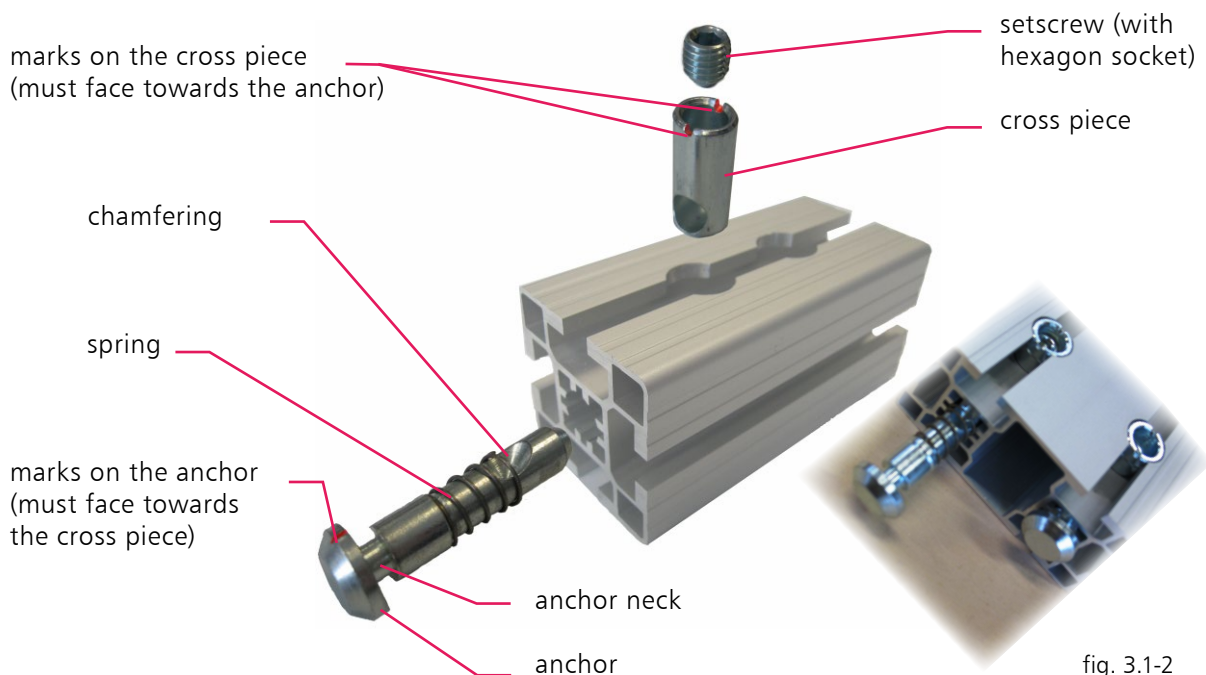

fig. 3.1-2
**Step ①** Please remove the packaging material. You may use this as a protective pad during assembly to avoid components being scratched or damaged.
**Step ②** Before you start putting together the frame base **A1** (*fig. 3.1-3*), please attach all the profile connectors to the provided positions at the frame base profiles first. Four (4) profile connectors should be kept for the side supports of the aluminium frame. In order to fasten the profile connectors, the chamfering should point towards the cross piece which is indicated by the mark at the anchor (*fig. 3.1-2*). The set screw will be slightly screwed into the cross piece with the corresponding Allen key. The anchor will be drawn into the profile automatically. It is important that you can still see the neck of the anchor (*fig. 3.1-4*) to be able to insert it into the lead channels at a later point (*fig. 3.1-5*). It might be the case that you need to push the anchor slightly against the cross piece while screwing it in.
**Step ⑨** Place the frame base **A1** with the rubber feet at the lower side the way that the projecting profiles **A1c** are facing you (fig. 3.1-15). To ensure the twall® is firm and stable a compact and even stand space is required. Before you start putting together the aluminium frame, please attach all the profile connectors to the provided positions at the frame profiles. Four (4) profile connectors were kept earlier (see step 2) to be fastened to the side supports of the aluminium frame. In order to fasten the profile connectors, the chamfering should point towards the cross piece which is indicated by the mark at the anchor (fig. 3.1-2). In order to fasten the profile connectors, the chamfering should point towards the cross piece which is indicated by the mark at the anchor (fig. 3.1-16). It might be the case that you need to push the anchor slightly against the cross piece while screwing it in.